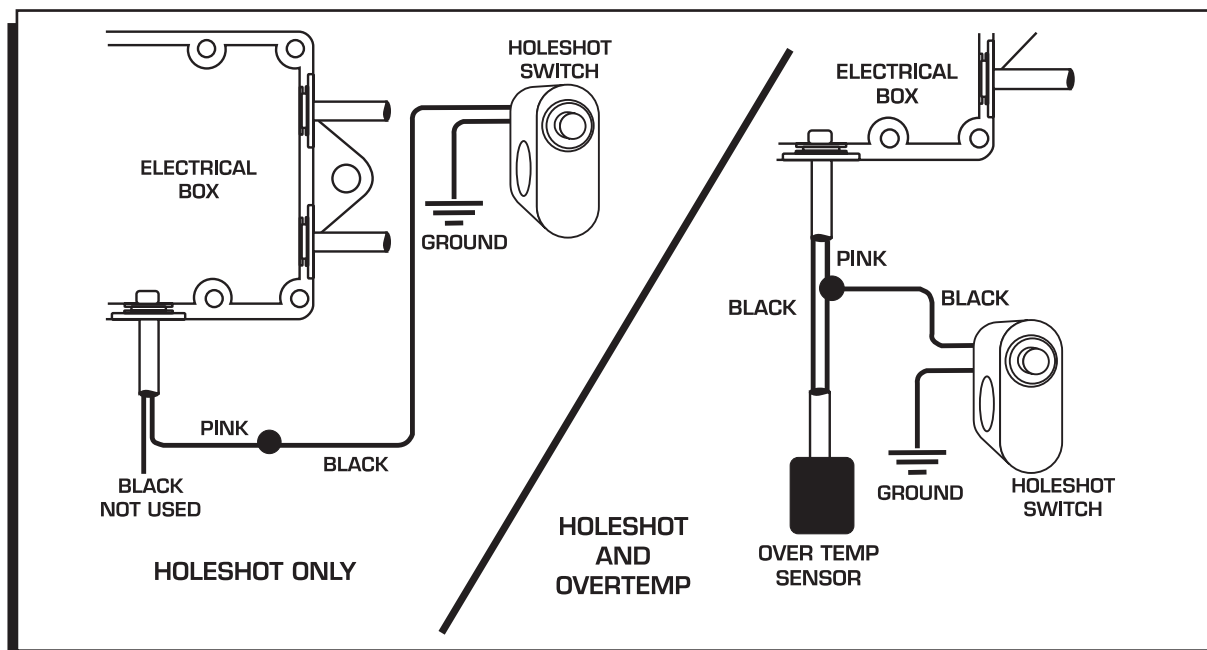

Figure 3 Connecting the Holeshoot Feature.
1. Connect one side of the Holeshot Switch (PN 4372, not supplied) to the PINK wire of the Enhancer. Connect the other wire of the Holeshot Switch to ground (Figure 3).
2. Splice one side of the Holeshot Switch (PN 4372, not included) into the PINK wire of the Enhancer. Connect the other wire of the Holeshot Switch to ground (Figure 3).